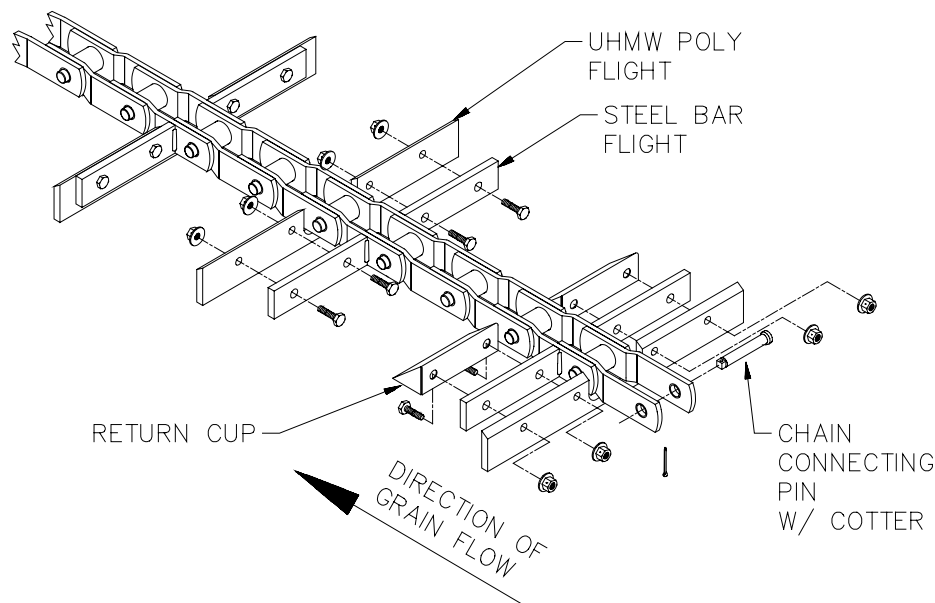
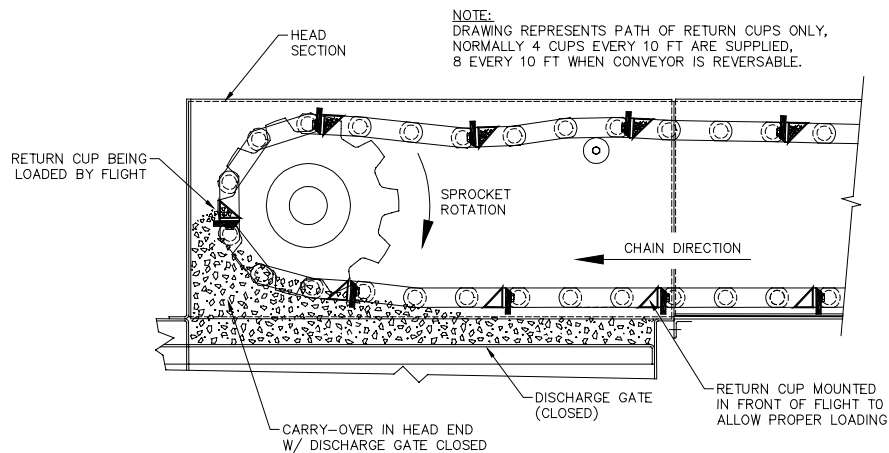
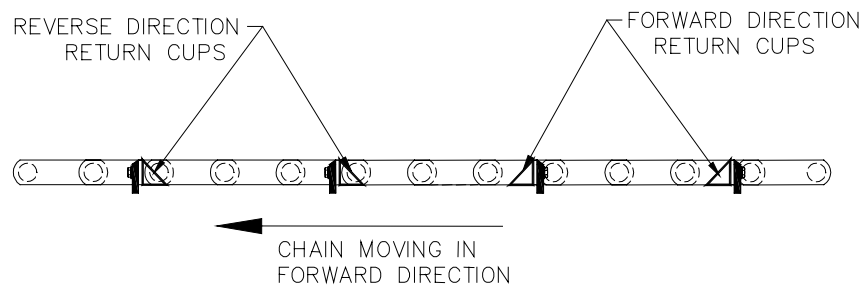

Figure 2-2, Conveyor Chain and Flight Details
Figure 2-2A, Return Cup Orientation for Standard Conveyors
Figure 2-2B, Return Cup Orientation for Reversing Conveyors
Study the drawing of the chain and flight details, **Figure 2-2**. As each conveyor section is set in place, verify that the chain flights are positioned as shown with respect to the direction of movement. It will be much easier to correct improperly assembled or positioned chain now than after conveyor assembly is complete. Also note the location of the return cups (if conveyor is equipped with intermediate discharge gates) See **Figure 2-2A**. The cups must be in front of the flight in order to fill properly. In the case of a reversing conveyor, the cups should alternate front and back. See **Figure 2-2B**.
- L. Connect chain sections by pressing in the provided connecting pins. Make certain all flights and return cups are facing the correct direction. (See **Figure 2-2, 2-2A & 2-2B**).